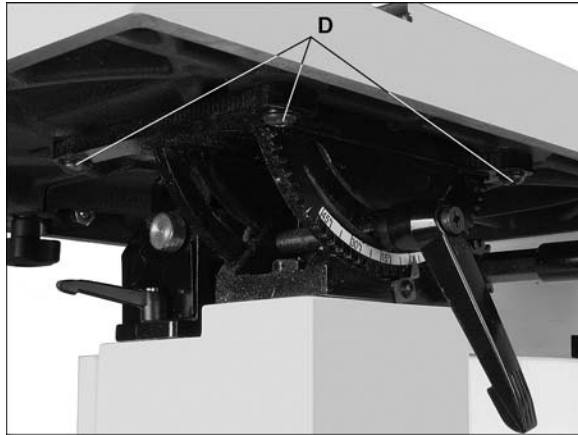

Figure 11
- If miter slot is not parallel to blade, loosen four screws (D, Figure 11) that secure table to trunnion, and shift table as needed until miter slot is parallel to blade.